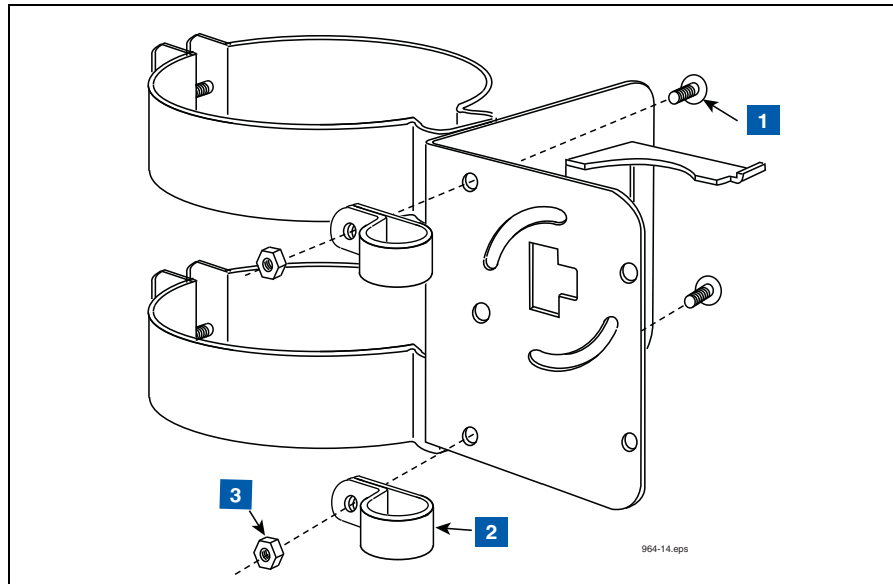

Figure 14. Attaching Conduit Clamps To Battery Pack Support Bracket
2. Attach two conduit clamps to the battery pack support bracket as shown in Figure 14. Do not tighten screws at this time.
**LEGEND FOR NUMBERED BOXES IN Figure 14**